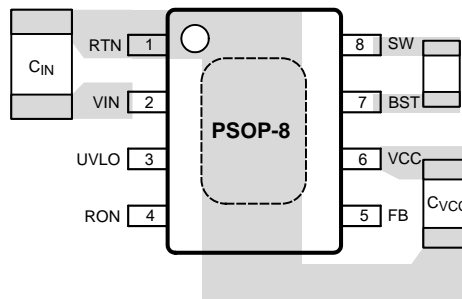

Figure 19. Placement of Bypass Capacitors
1. C_{IN} : The loop consisting of input capacitor (C_{IN}), V_{IN} pin, and RTN pin carries switching currents. Therefore, the input capacitor should be placed close to the IC, directly across V_{IN} and RTN pins and the connections to these two pins should be direct to minimize the loop area. In general it is not possible to accommodate all of input capacitance near the IC. A good practice is to use a $0.1\mu\text{F}$ or $0.47\mu\text{F}$ capacitor directly across the V_{IN} and RTN pins close to the IC, and the remaining bulk capacitor as close as possible (Refer to Figure 19 Placement of Bypass Capacitors).
2. C_{VCC} and C_{BST} : The V_{CC} and bootstrap (BST) bypass capacitors supply switching currents to the high and low side gate drivers. These two capacitors should also be placed as close to the IC as possible, and the connecting trace length and loop area should be minimized (See Figure 19 Placement of Bypass Capacitors).